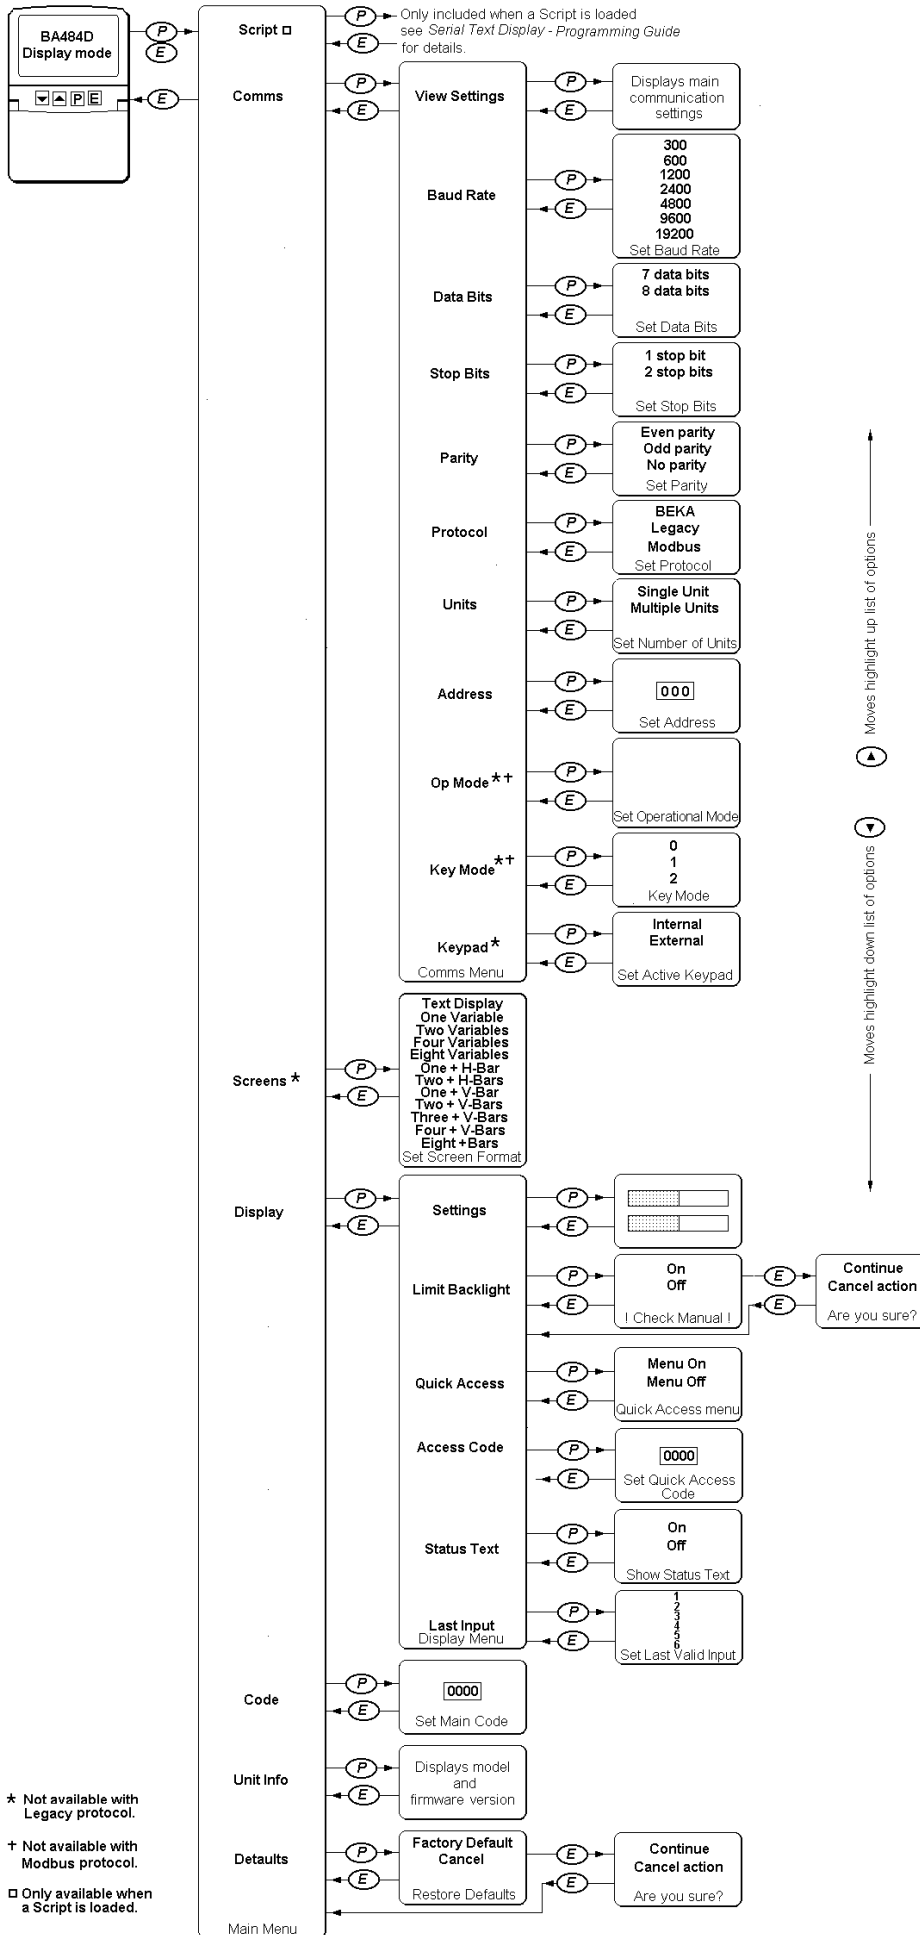

Fig 10 Structure of Configuration Menu
The BA484D is configured via the four front panel push-buttons. All the configuration functions are contained in an easy to use menu shown in Fig 10. Where necessary the sub-menus contain on-screen prompts to guide the user through each adjustment.
This section provides a brief explanation of each configurable function and should be read in conjunction with Fig 10.
Structure	Fig 10
4. To set the instrument's basic communications parameters enter the configuration menu by pressing the *P* and *E* push-buttons simultaneously. Fig 10 shows the menu structure and navigation.